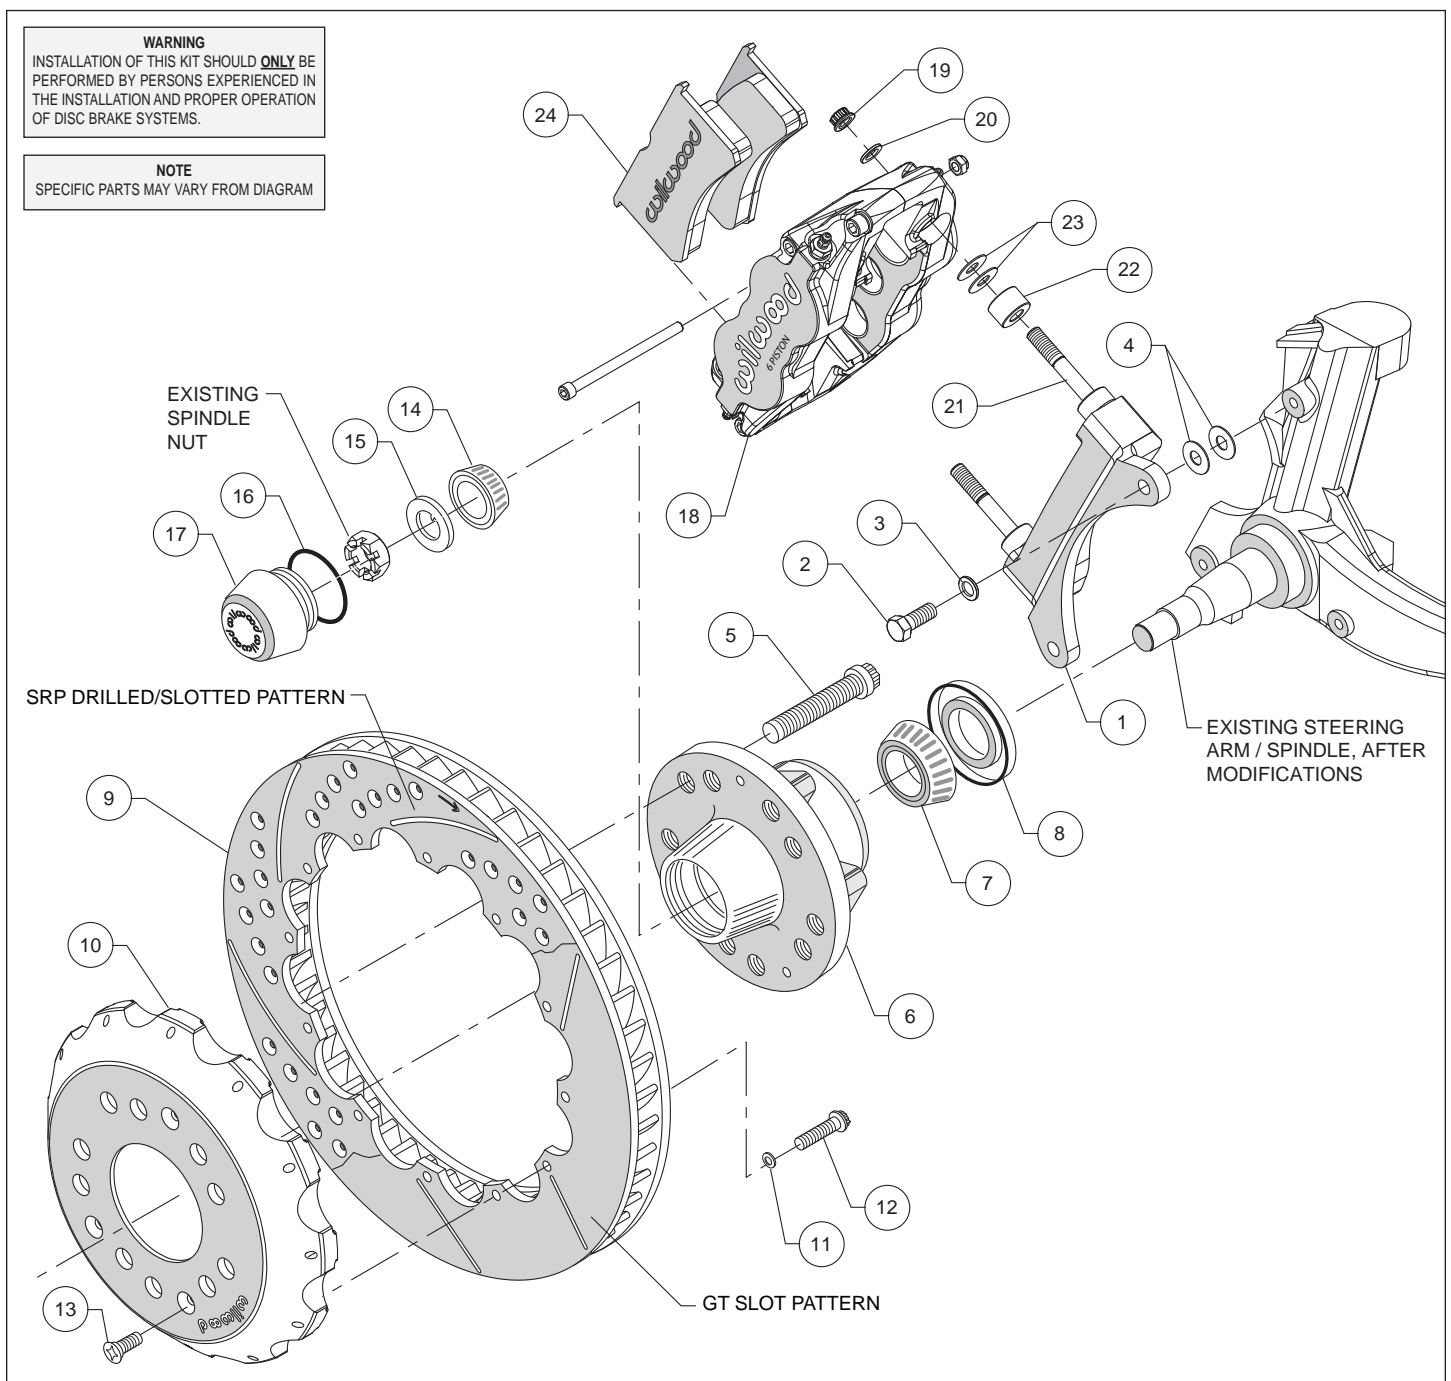
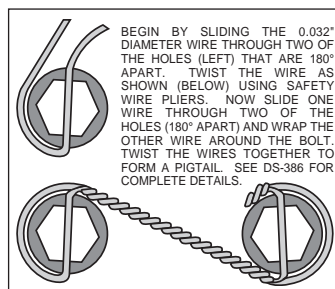

Figure 2. Typical Installation Configuration
Figure 4. Safety Wire Diagram
Assembly Instructions (numbers in parenthesis refer to the parts list and Figure 2 on the preceding pages):
- The caliper mount bracket (1) should initially be installed with clean, dry threads on the mounting bolts. Orient the bracket as shown in Figure 2 and Photo 1, and install using bolts (2) and washers (3). Initially place two .035" thick shims (4) on each bolt between the bracket and upright, Figure 2. Temporarily tighten the mounting bolts. **NOTE:** The bracket must fit squarely against the mounting points on the spindle. Inspect for interference from casting irregularities, machining ridges, burrs, etc. Later, after the caliper alignment has been checked, the mount bolts will be secured using red *Loctite*® 271.
- Orient the rotor (9) and the hat (10) as shown in Figure 2 and Photo 4. Attach rotor to hat using bolts (12) and washers (11). Using an alternating sequence, apply red *Loctite*® 271 to the threads, and torque to 155 in-lbs. For an added measure of security, the bolts may be safety wired using standard 0.032 inch diameter stainless steel safety wire as shown in Figure 4.
- **NOTE:** *This kit contains distinct right and left hand calipers that must be mounted in a specific direction, as described below.* Lubricate the caliper mounting studs (21) with lightweight oil. Initially place two .035" thick shims (23) and one spacer (22) on each stud between the caliper and the bracket, as shown in Figure 2 and Photo 7. Mount the caliper (18) onto the bracket (1) using lock nuts (19) and washers (20), Figure 2. Ensure that the caliper is mounted so the largest pistons are at the rotor exit end of the caliper, in relation to the direction of rotor rotation. Temporarily tighten the lock nuts and view the rotor through the top opening of the caliper. The rotor should be centered in the caliper, Photo 8. If not, adjust by adding or subtracting shims (4) between the bracket and the spindle. Always use the same amount of shims on each of the two mounting bolts. Once the caliper alignment is correct, remove the bracket mounting bolts one at a time, apply red *Loctite*[®] 271 to the threads, and torque to 40 ft-lb.